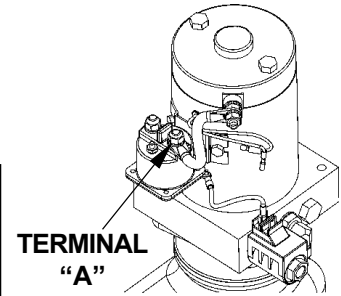

FIG. 41-1
1. Use voltmeter to verify that power is being supplied to Solenoid Terminal "A". Recharge the battery if voltmeter indicates less than 12.6 Volts (**FIG. 41-1**).